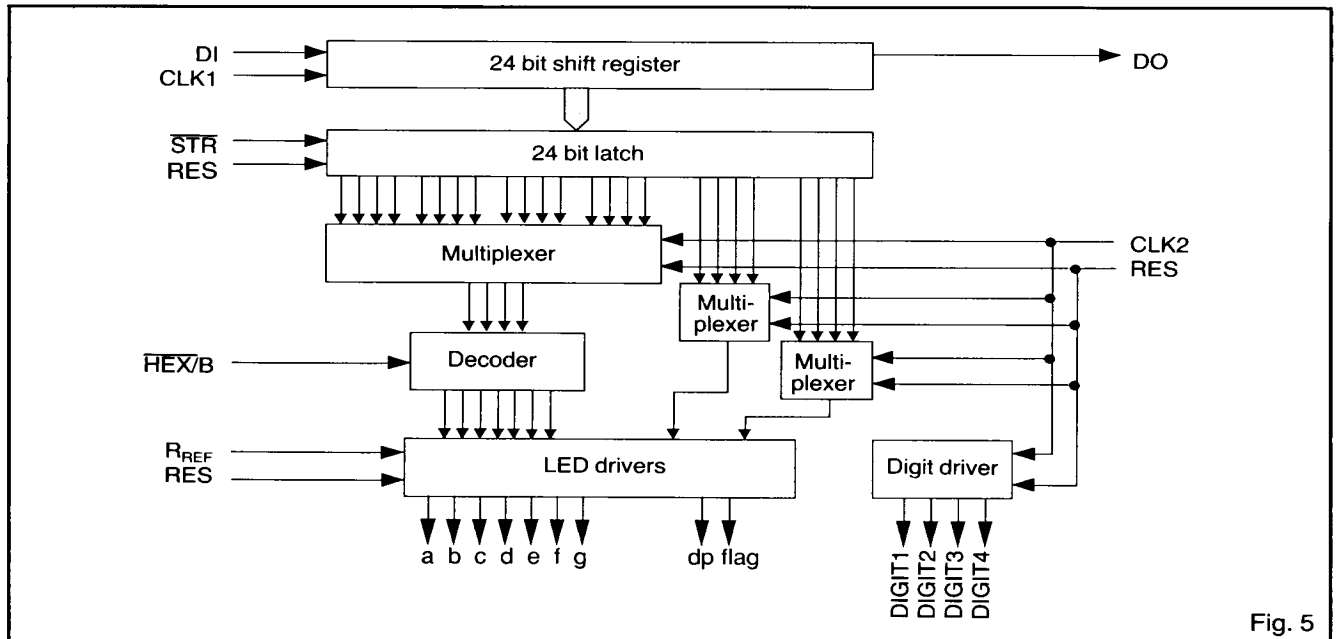
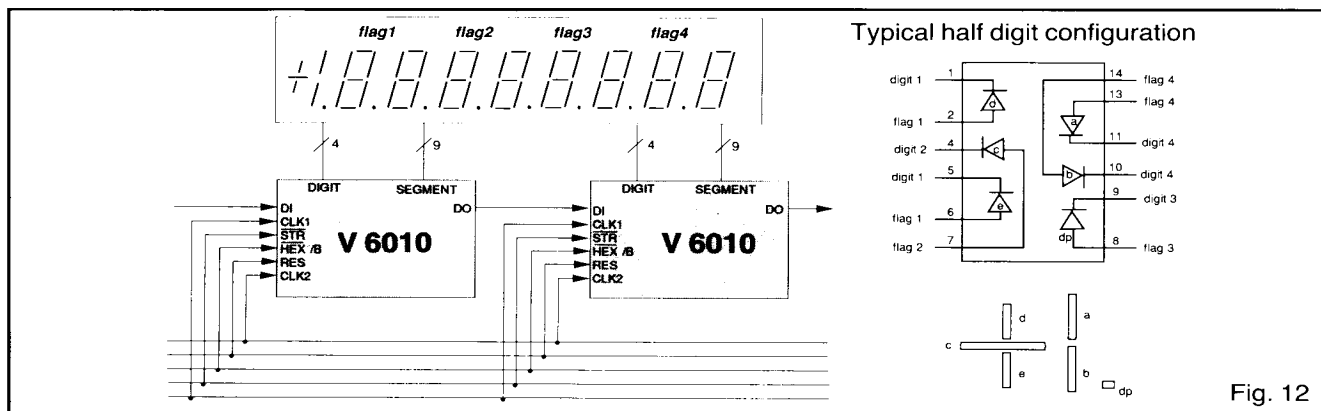

Fig. 5
Fig. 12
See block diagram Fig. 5
1. See Communication Cycle (Fig. 4), and Block Diagram (Fig. 5).
3 bits (bits 12 to 15), the digit 2 bits (bits 16 to 19) and lastly the digit 1 bits (bits 20 to 23) (see Fig. 7). The data is clocked in at a rate determined by the clock 1 input frequency (CLK1) (see Fig. 4). The data output pin DO is used in cascaded applications (see Fig. 12). To the microprocessor, cascaded V 6010s act as one device. The data present at the V 6010's DO pin is the data loaded at the DI pin delayed by 24 clock periods. In order to cascade devices, DO of one chip must be connected to DI of the following chip (see Fig. 12).
The CLK1 input is used as the data clock and loads the serial input data on the DI pin into the V 6010's 24 bit shift register (see Fig. 5). Loading, shifting and outputting (via the DO pin) of the serial data occurs at the rising edge of the CLK1 signal. When cascading devices, all clock lines must be tied together (see Fig. 12).
A falling edge on the  $\overline{\text{STR}}$  input transfers the data contained in the 24 bit shift register to the 24 bit latch (see Fig. 4 and Fig. 5). The 24 bit latch remains open while  $\overline{\text{STR}}$  is at logic "0" and the 24 bit latch is driven by the data in the 24 bit shift register. On the  $\overline{\text{STR}}$  rising edge the 24 bit shift register is disabled from driving the 24 bit latch. The data held in the 24 bit latch is decoded to drive the LED display (see Fig. 7). When cascading devices the  $\overline{\text{STR}}$  lines must be connected together (see Fig. 12).
The RES input when active blanks the display, resets the multiplex scan circuitry, clears the 24 bit latch and puts the V 6010 into standby (see Fig. 5). The current consumption when RES is active is typically  $30\mu\text{A}$  without  $R_{\text{REF}}$  connected. The voltage at pin  $R_{\text{REF}}$  is typically 0.675V. When a resistor is connected to pin  $R_{\text{REF}}$ , a reference current will flow through the resistor in proportion to the voltage drop. This current must be added to the static current consumption to give the value for standby. On taking RES inactive the display will show "0" for digit 4 and the remaining digits will be blank. The multiplex scan circuitry will also be re-enabled. Note when RES is active it is still possible to load data into the 24 bit shift register, but it is not possible to transfer this data to the 24 bit latch.